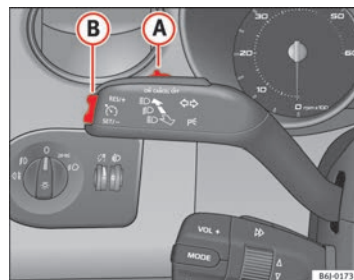

Fig. 110 Turn signal and main beam headlight lever: switch and rocker switch for the cruise control
- Press the upper part **RES** of the rocker switch ⇒ fig. 110 **B** to increase the speed. The vehicle will continue to accelerate as long as you keep the rocker switch pressed. When you release the switch, the new speed is stored.
Cruise control is switched off if you reduce speed by depressing the brake pedal. Reactivate the control by pressing once on the upper part of the rocker switch **RES+** ⇒ page 149, fig. 110 **(B)**.